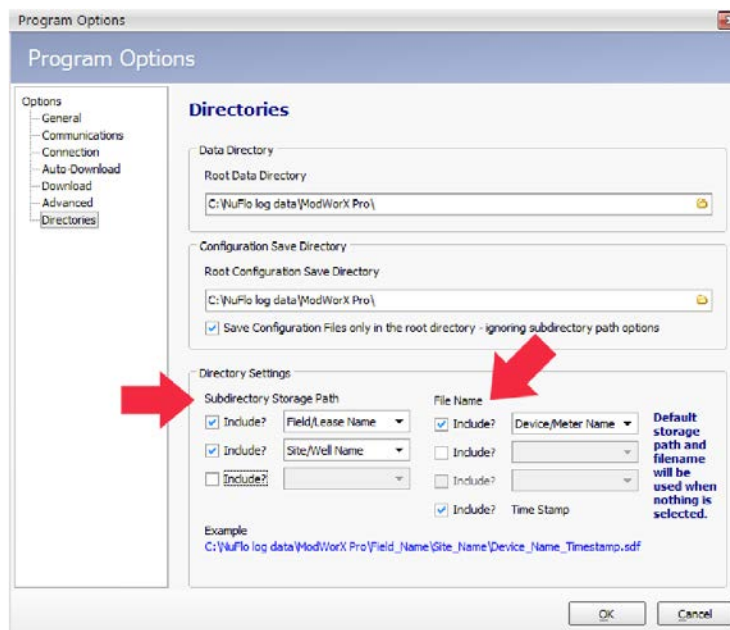

Figure A.27
3. In the Directory Settings portion of the screen (Figure A.27, page A-19), select the subdirectory storage path(s) to which you want the file saved. The file will be saved in the order the subdirectories are selected.